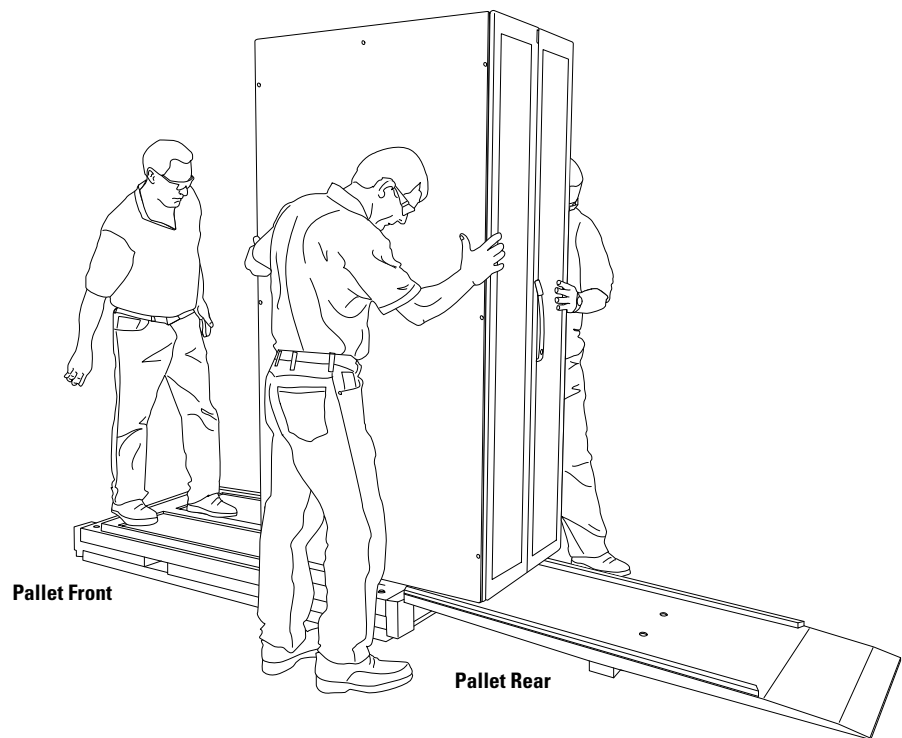

Figure 8. Unloading the System
4. Slowly roll the system toward the rear of the pallet. With the system supported on each side, continue rolling the system down the center of the ramp until the system is clear of the pallet. See Figure 8.